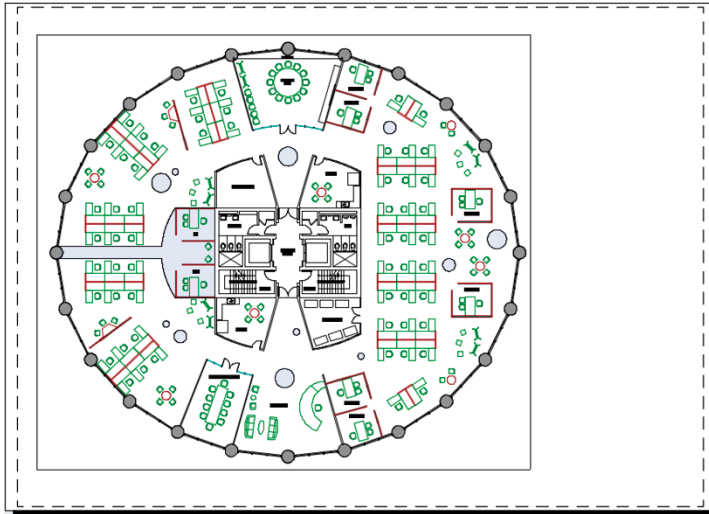

FIGURE 13.19 The drawing fits the paper at 3/16" scale (or 1:50 in metric).
8. Double-click the paper outside the viewport to switch back into paper space. Select the viewport, and grip-edit it so that it closely surrounds the plan geometry. Move the plan to the left on the paper to make room for another drawing on this layout. Figure 13.19 shows the result.